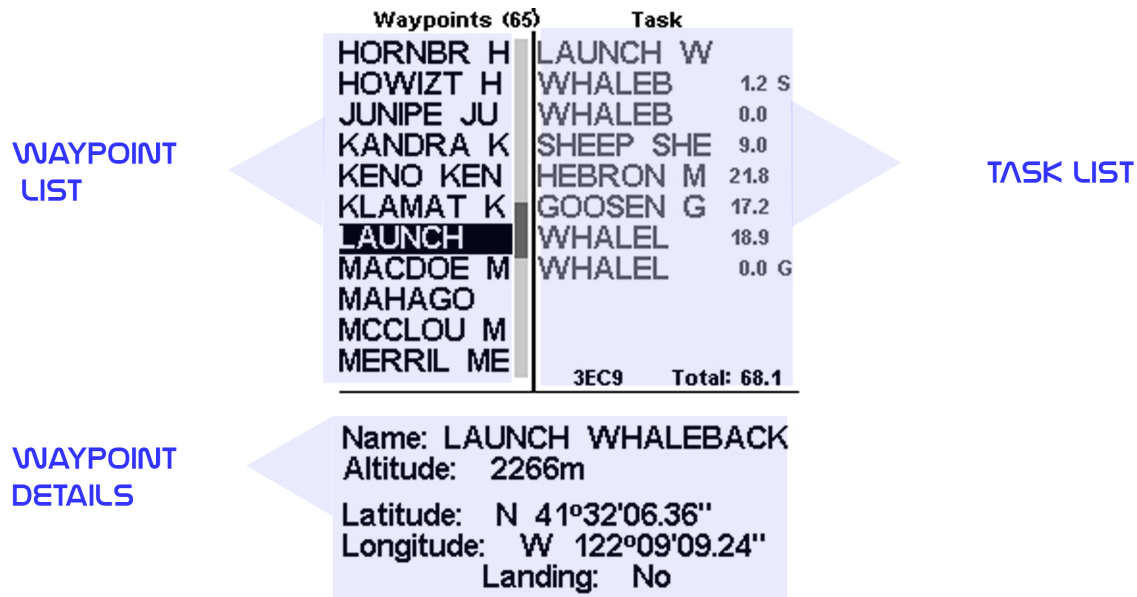

Figure 4.2: Waypoints and TaskScreen
The Waypoints/Taskpage allows the user to manage waypoints, and define a route/task. As shown in Figure 4.2, the page is divided into 3 areas, namely the waypoint list (WL); Tasklist (TK) and selected waypoint details/options list (DO). The DO area can change according to which submenu you are in. Specifically, it can show the selected waypoint data, or a list with possible actions for the waypoints. Entering the page activates the WL area. At the top of the page next to the title Waypoints, is the total number of Waypoints stored in the LIVE SD instrument¹. The first waypoint on the list appears highlighted, and the corresponding data of the selected waypoint is shown in the DO area. As the cursor is moved to a different waypoint so the data changes matching the newly selected waypoint. If the waypoints list is empty a list of available actions is shown in the DO area. Since no waypoint exists only the *Insert new Waypoint* action is available.